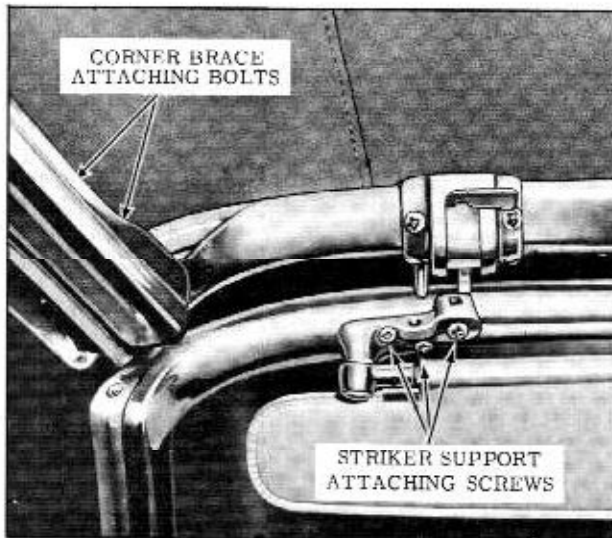

Fig. 17-110 Engaging Roof Header with Striker
3. After top is raised, guide studs on front roof rail into striker holes; then engage each folding top locking handle with striker on windshield header. (Fig. 17-110)